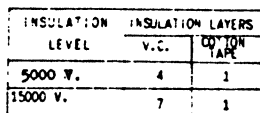

Fig. 35 Insulation of Connection Bars
(1) Fill all cavities around bolts and nuts with Duxseal compound to form smooth surface for taping, thus preventing air voids. This compound is not an insulating medium and should not be used for that purpose.
(2) Wrap with varnished cambric tape, G. E. #992, as shown in Figure 35, the number of layers depending on the voltage rating of the equipment. Where there are sharp angles apply additional layers to obtain the equivalent of the insulation of the flat surfaces.
(3) Over the varnished cambric tape apply one layer of white cotton tape, half lap, as a binder.
(4) Over the white cotton tape brush a good coat of G. E. *Glyptal varnish. (#1201 Red for 15KV. and #462 Black for 5 KV.)